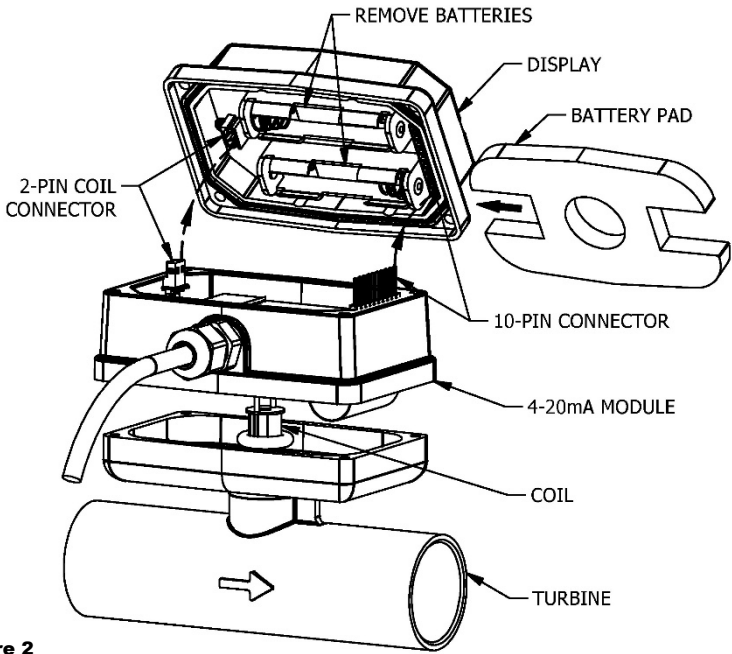

Figure 2
3. Connect the 4-20mA Module to the 10-pin connector located on the backside of the computer electronics (see Figure 2).
4. Reconnect the coil connector to the 2-pin terminal block on the other end of the computer backside. Once the cables are installed on the display, the housing of the display can be placed on top of the 4-20mA module (see Figure 2).